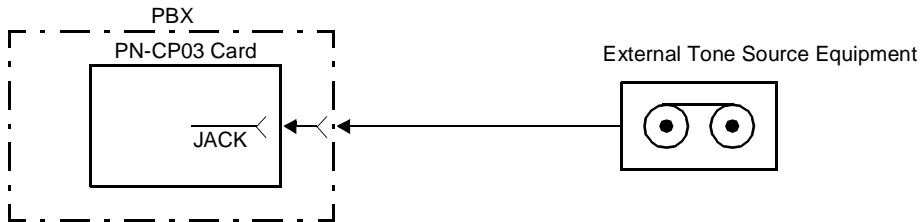

Figure 006-26 External Tone Source Connection Outline
The cross connection for a customer owned external tone source equipment is shown in Figure 006-26 and Figure 006-27, as an example.
**Note 2:** When connecting the external tone source equipment using the PN-4COT and PN-DK00 cards, an appropriate diode must be installed on the MDF, as shown in Figure 006-26.